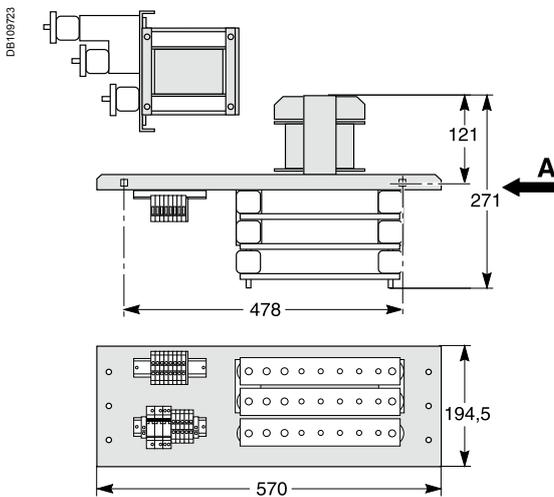

Fig. 9: connection module dimensions.
- connection module "without busbar" (Fig. 9): 16 kg max.